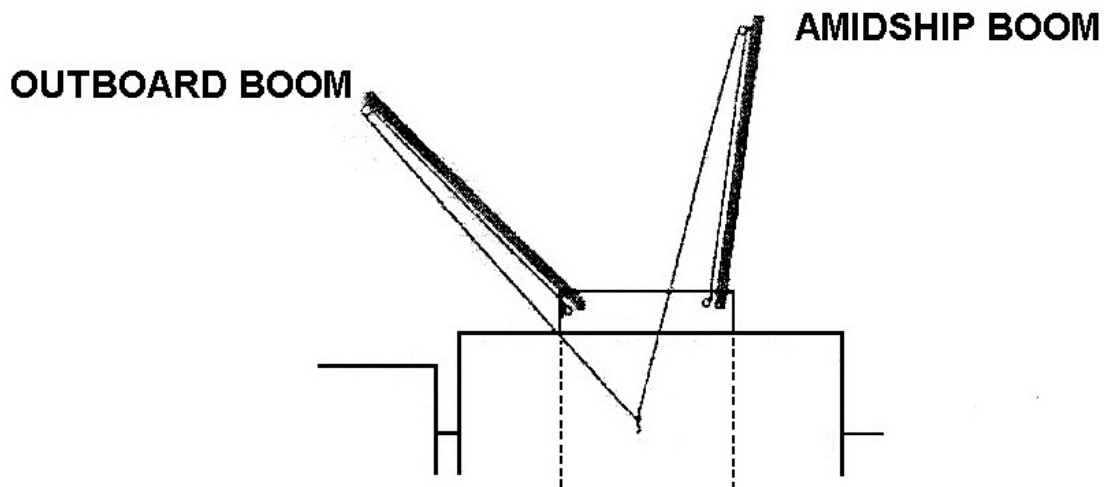

Figure 3-132
2. Direct the rigging of a west coast rig (see Figure 3-132).